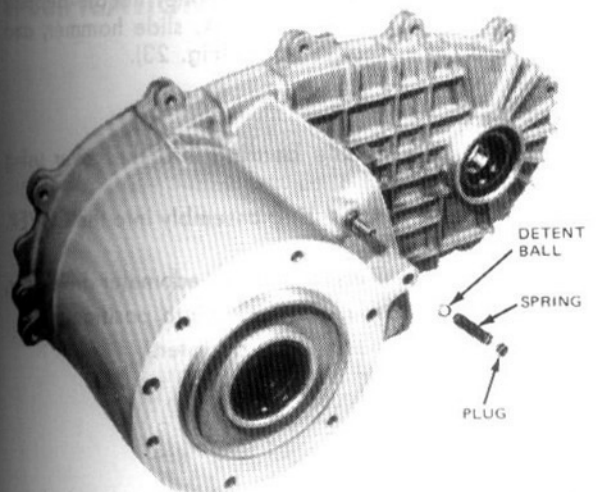

FIG. 18 Installing Detent Ball
12. Insert detent ball and spring in detent bore in case half (Fig. 18). Coat the seal plug with RTV sealant or equivalent. Drive plug into case until the lip of the plug is 0.79mm (1/32 inch) below the surface of the case. Peen the case over the plug in two places.